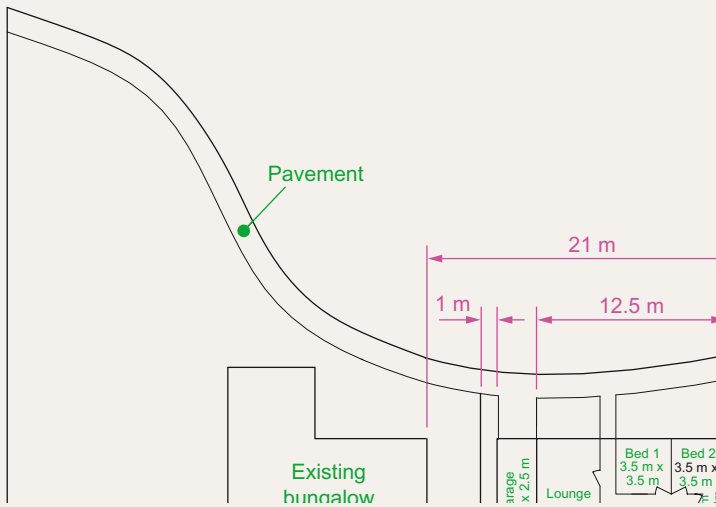
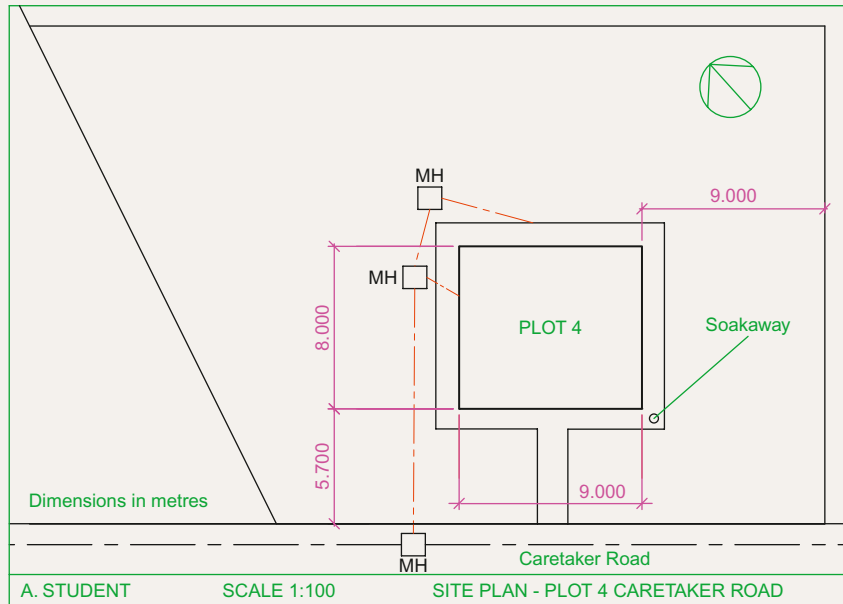
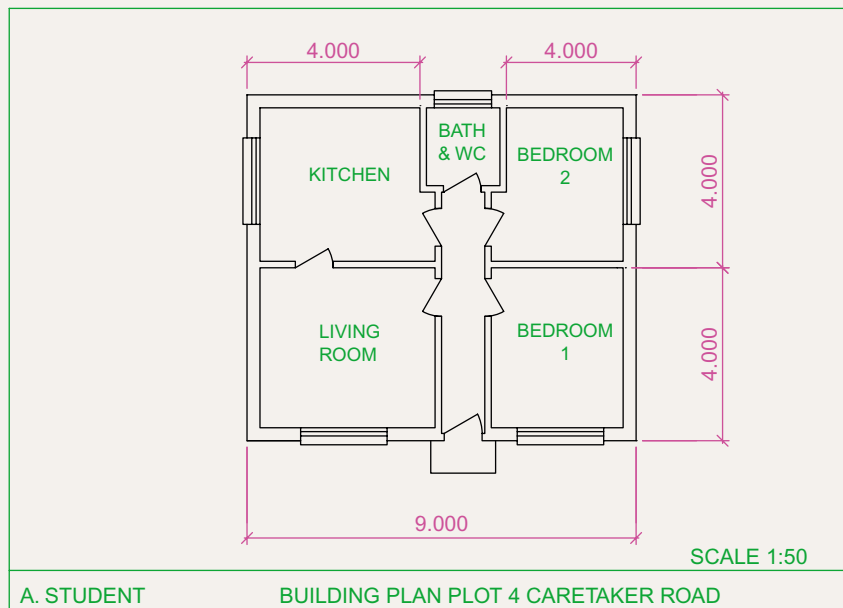

Fig. 16.28 Exercise 1
Fig. 16.30 Exercise 3 – site plan
Fig. 16.31 Exercise 3 – a building
1. Fig. 16.28 is a site plan drawn to a scale of 1:200 showing a bungalow to be built in the garden of an existing bungalow. Construct the library of symbols shown in Fig. 16.8 on page 332 and by inserting the symbols from the DesignCenter construct a scale 1:50 drawing of the floor layout plan of the proposed bungalow.
3. Fig. 16.30 shows a scale 1:100 site plan for the proposed bungalow 4 Caretaker Road. Construct the floor layout for the proposed house shown in Fig. 16.28.
4. Fig. 16.31 shows a building plan of a house in the site plan (Fig. 16.30). Construct a 3D model view of the house making an assumption as to the roofing and the heights connected with your model.